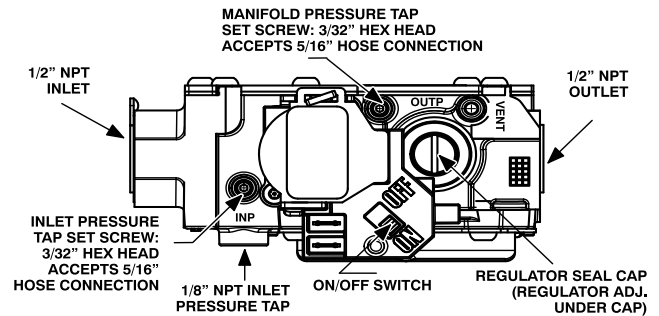

Fig. 64 – Gas Valve with Tower Pressure Ports
- h. Remove regulator adjustment cap from gas valve pressure regulator and turn adjusting screw (3/16 or smaller flat-tipped screwdriver) counterclockwise (out) to decrease input rate or clockwise (in) to increase input rate. See Fig. 64.
1. Adjust manifold pressure to obtain proper gas input rate. See Fig. 64.